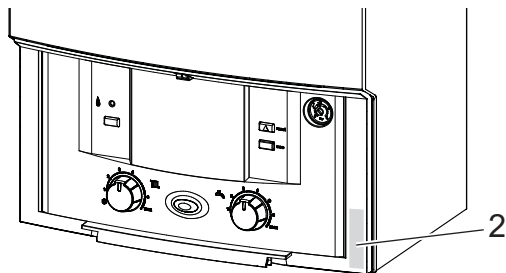

Fig. 5 Low NOx boiler identification label location
- ▶ To identify the boiler as a “Low NOx” variant, peel off the smaller portion (2) of the green label and apply to the bottom right corner of the fascia as shown in figure 5.
- ▶ The other portion of the label (3) can be discarded.